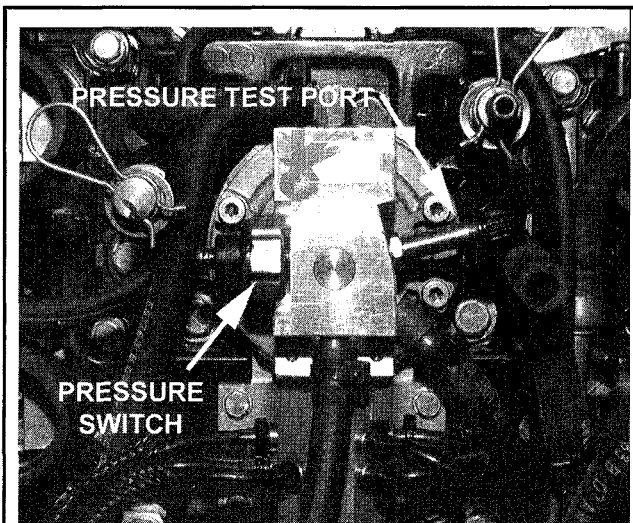

Fig. 34 FFI models equipped with hard fuel rails utilize a pump with both a pressure switch and pressure test port
- ◆ See Figures 34 and 35
- ◆ See Figure 34 and 35